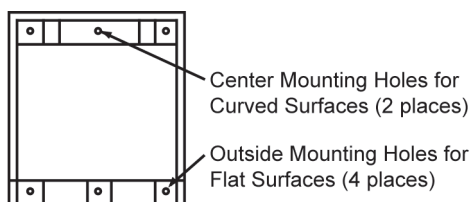

Figure 3-11. Junction Box Mounting.
2. See Figure 3-11. Hold the junction box at the previously marked mounting location. Mark the mounting holes. Mark the four outside mounting holes if mounting on a flat surface, such as an I-beam or rectangular tube. Mark the two center mounting holes if mounting on a curved surface, such as a pipe or round tube.